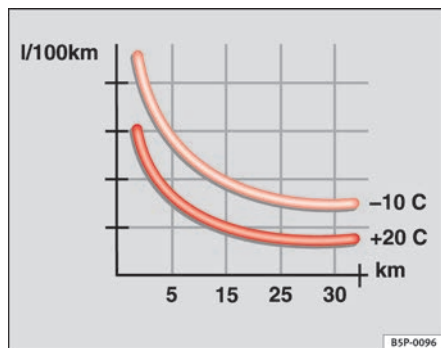

Fig. 155 Fuel consumption in litres per 100 km at different outside temperatures.
- fig. 155 shows the difference in consumption for the same journey at +20 °C (+68 °F) and at -10 °C (+14 °F).